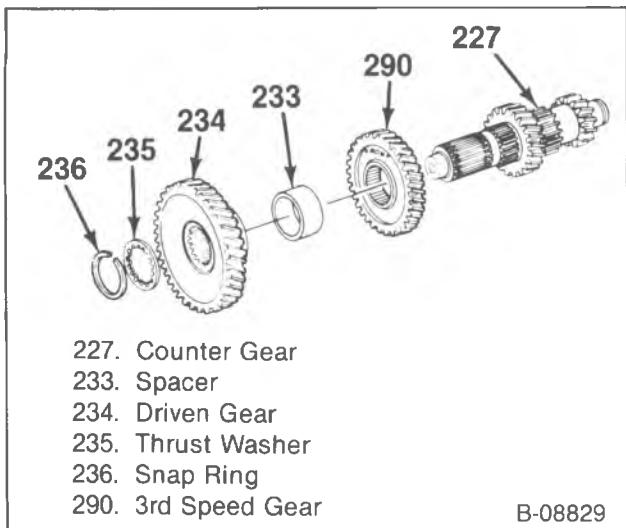
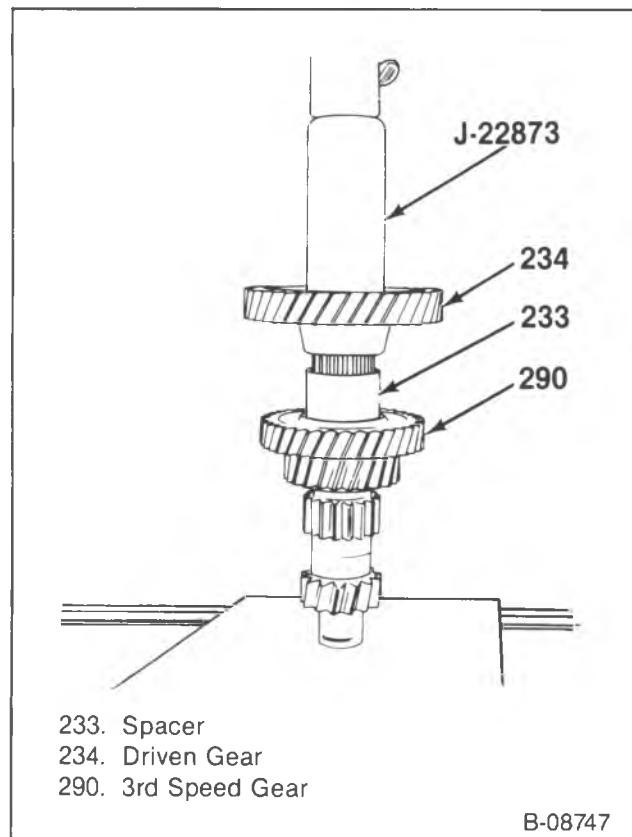
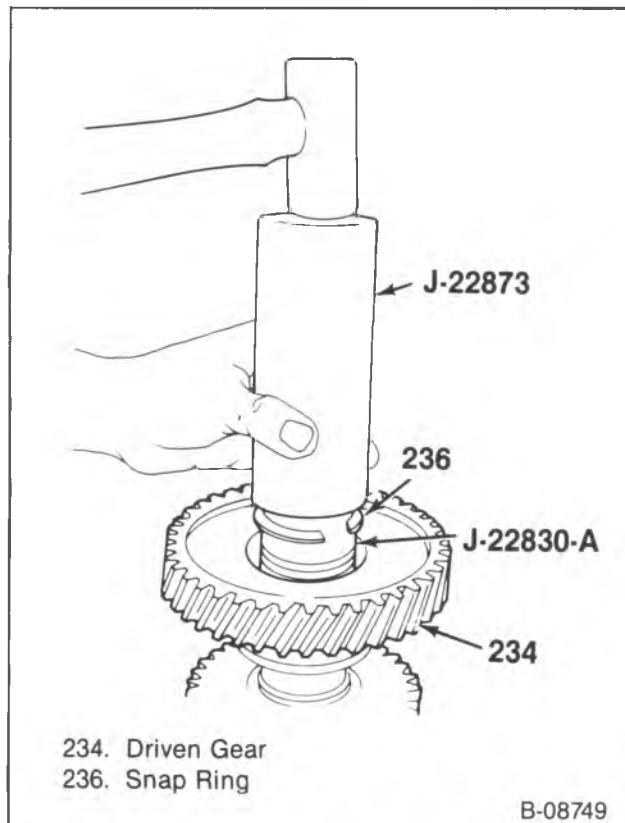

Figure 42—Countergear
Figure 46—Installing the Driven Gear
Figure 47—Installing the Driven Gear Snap Ring
Disassemble (Figure 42)
Assemble (Figure 42)
- The gear is marked "FRONT" in the web area, as shown in figure 42.
2. Spacer (233).
3. Driven gear (234), using J-22873 (figure 46).
4. Thrust washer (235).
5. New snap ring (236), using J-22830-A and J-22873 (figure 47).